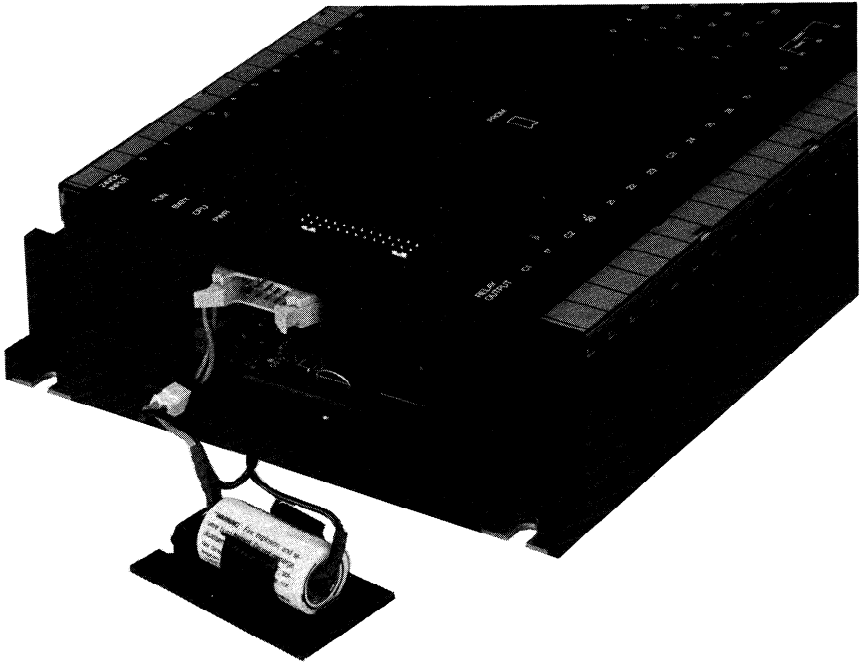

Figure 7.2 BATTERY LOCATION
2. To access the battery, remove the battery access cover (refer to Figure 7.2) located on the left side of the Series One Junior. The cover is easily removed by pressing down on the tab until the access cover pulls away from the unit.